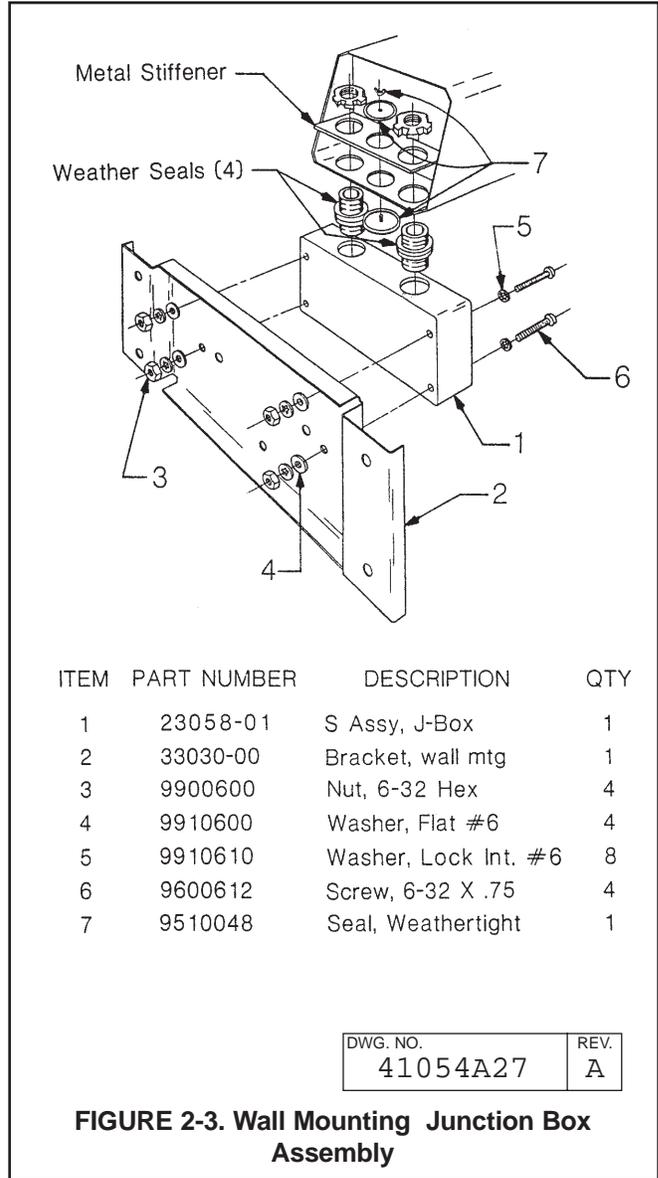

FIGURE 2-3. Wall Mounting Junction Box Assembly
2.3.2 Wall Mounting Plate with Junction Box (PN 23054-01). Refer to Figures 2-3 and 2-4.
2. Attach the mounting bracket to the junction box with the hardware provided. See Figure 2-3. Wiring can be brought to the terminal strip prior to mounting the analyzer to the junction box.